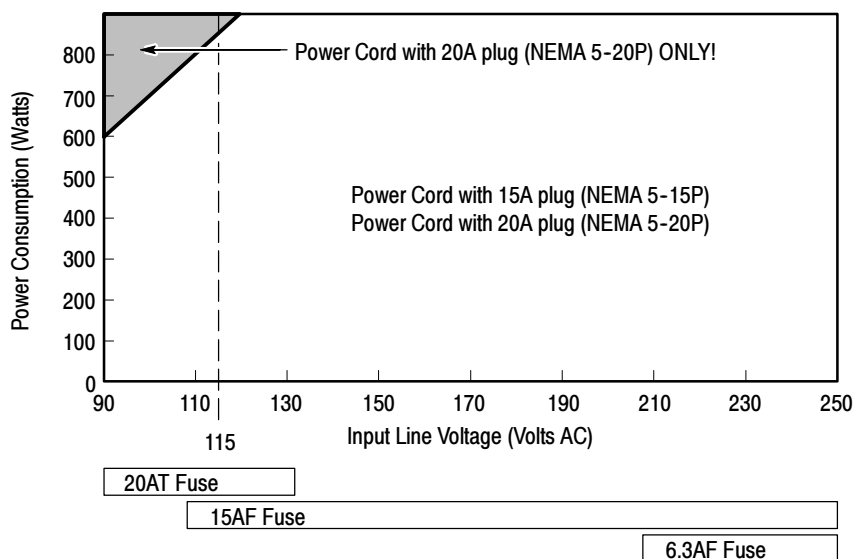

**Figure F-1: Power cord identification chart**
4. Refer to Figure F-1 on page F-3 to determine the proper power cord and line fuse for your mainframe.
For power usage in the unshaded region of Figure F-1, use either the power cord with the 15 A plug (two parallel prongs and ground) or the power cord with the 20 A plug (two perpendicular prongs and ground).
For high power usage combined with low input line voltages (shaded region), use only the power cord with the 20 A plug. Select the proper fuse based on the ranges shown in Figure F-1.
Because the power consumption (at 90 VAC) is approaching the shaded area of the graph in Figure F-1, you should consider using the 20A power cord.